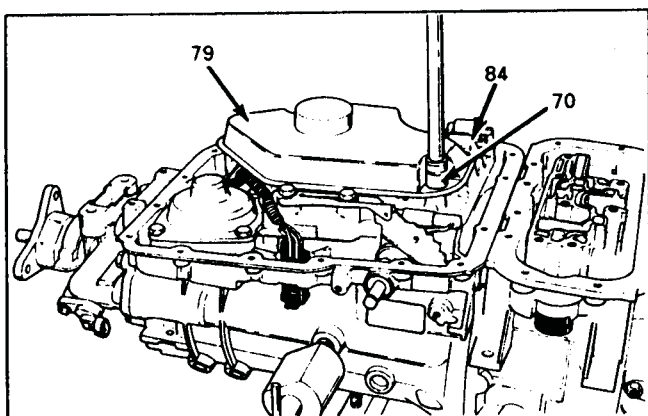

Figure 132
21. Install the oil filter to the main case valve body and secure with the three remaining valve body bolts, as shown in Figure 132. Torque the three bolts to 14 ft.lbs. using a 13mm socket.